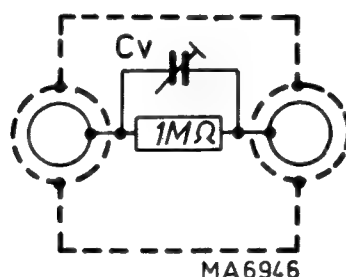

Fig. 13. Input RC standardizer
- Set $ACx10/AC/DC$ switch 807 (808) to position $ACx10$.
- Apply a square-wave voltage of 30 mV_{p-p} , frequency 2 kHz, rise time 300 ns, to $Y_A (Y_B)$ input socket 853 (854).
- To equalize the input capacitance in all positions of the Y_A (Y_B) AMPLITUDE switch 805a (805b), an input RC standardizer is connected in series with Y_A (Y_B) input socket 853 (854). The input RC standardizer consists of the parallel circuit of a 1 M Ω resistor and a 3-60 pF trimmer (Fig. 13) and is adjusted as indicated in the following table.
- Connect a square-wave generator (rise time 100 ns, internal resistance < 1 k Ω) to Y_A (Y_B) input socket 853 (854). Adjust amplitude and frequency in accordance with the following table.